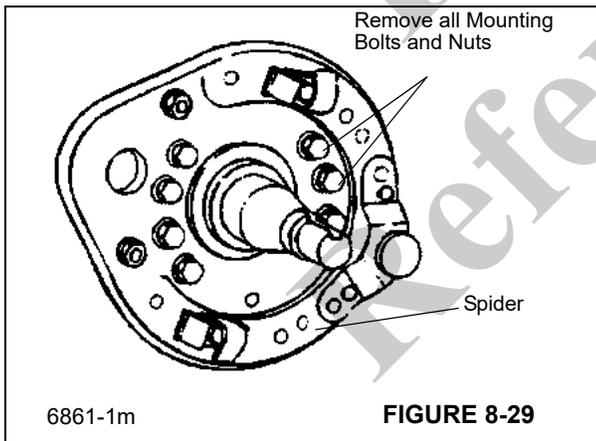

FIGURE 8-29
9. Remove spider-to-axle attaching nuts and bolts and remove the spider (Figure 8-29).